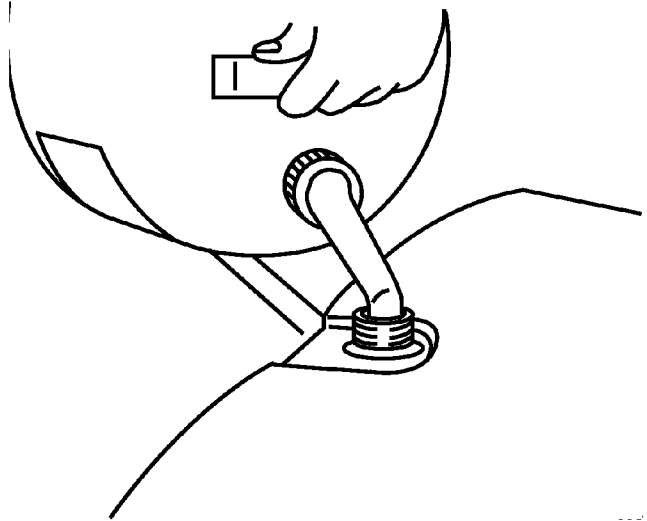

Figure 8
1. Clean around fuel cap before removing (Fig. 8). Fill fuel tank with gasoline/oil mix to within 1/4 inch (6.5 mm) of top of tank, not into filler neck. DO NOT OVER-FILL TANK. Replace fuel cap securely and wipe up any spilled fuel.